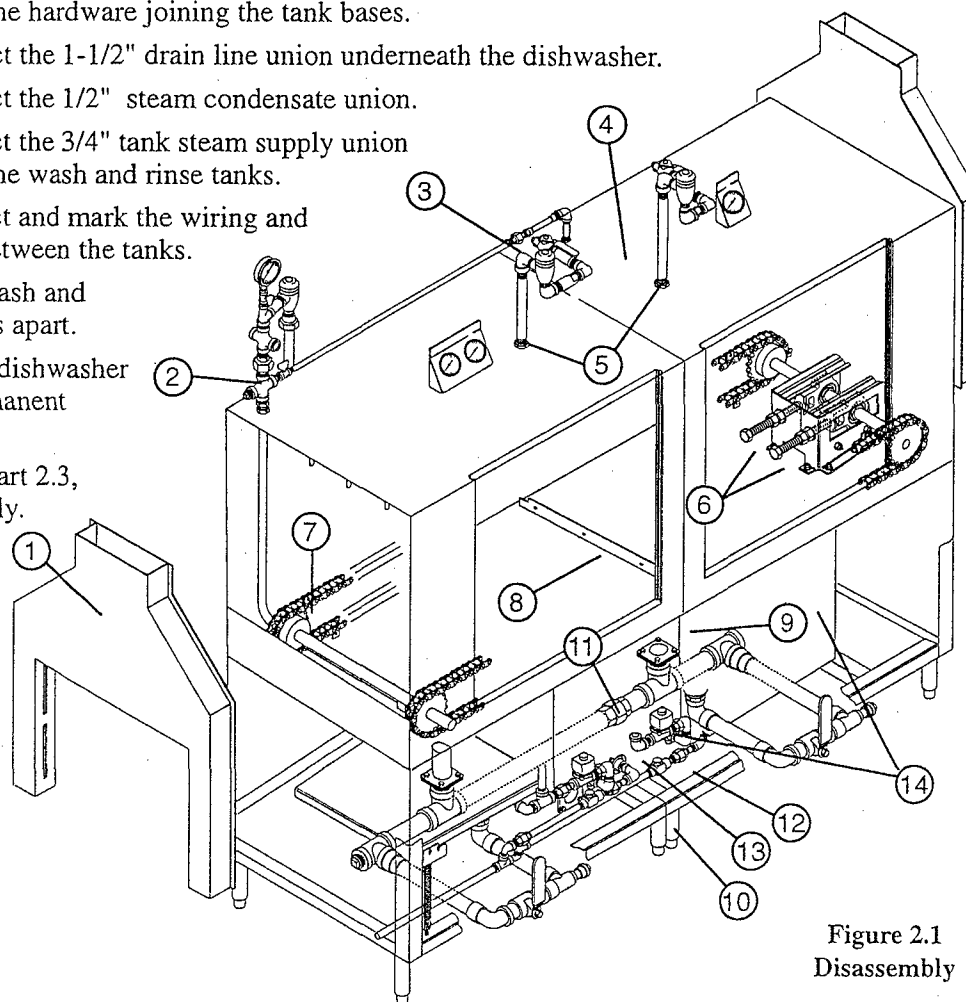

Figure 2.1
Perform the following steps to disassemble the dishwasher. Refer to Fig. 2.1 below.
Perform the following steps to reassemble the dishwasher prior to permanent placement. Refer to Fig. 2.1 on the preceding page.
11. Reconnect the wiring and plumbing. Refer to Steps 12-14, Part 2.2 and Fig 2.1.
12. Pull the conveyor drive chains stored in the wash tank back to the rinse tank. Make sure the drive chain with the dishrack lugs is positioned on the rear track. See Item 7, Fig.2.1.
Refer to Steps 2-5, Part 2.2 and Fig.2.1